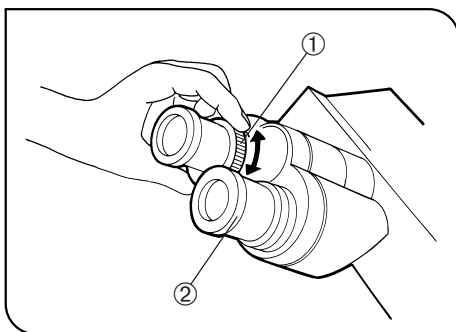

Fig. 12
2 Adjusting the Diopter (Figs. 12 & 13)
2. Looking through the eyepiece with the diopter adjustment ring ①, turn it to focus on the specimen. (Fig. 12)
1. Looking through the right eyepiece with your right eye, turn the diopter adjustment ring ② at the top of the eyepiece until clearly defined double crosslines can be seen in the field of view. (Figs. 12 & 13)
3. Looking through the left eyepiece with your left eye, turn the diopter adjustment ring ① to focus on the specimen.